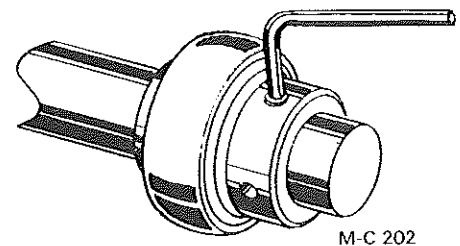

Figure 34
7. Tighten the set screw in the collar, see Figure 34.